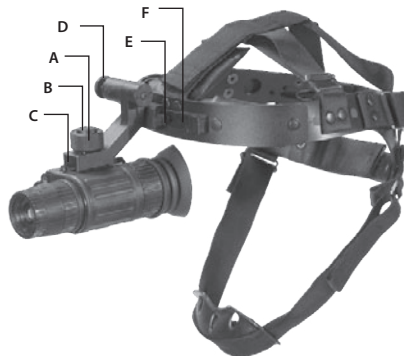

FIGURE 3-2. MOUNTING N-14 TO A GOGGLE KIT
2. Loosen the screw (A). While pushing down on the button (B), insert the N-14 rail into the guide (C) of the goggle kit bracket. Tighten the screw (A). See Figure 3-2; the unit is shown in the correct positioning for the right eye.
4. To adjust the equipment for greater comfort, loosen the screw (A) and move the unit along the guide (C).
5. The goggle kit has a flip-up mechanism. Push the button (D) of the goggle kit bracket and lift the unit up until it reaches its top position. The unit will automatically turn off when it reaches this position.
6. Push the same button (D) to lower the unit into the correct viewing position. Turn the unit back on to continue your session.
Figure 3-2 shows the N-14 in the correct position for the right eye. To readjust the unit for the other eye, remove the unit from the goggle kit bracket. Turn the unit around (180°) and mount it on the bracket through the rail on the second side. With the button (E) pushed, move the unit along the slide-rail (F) until the desired, most comfortable position is reached.